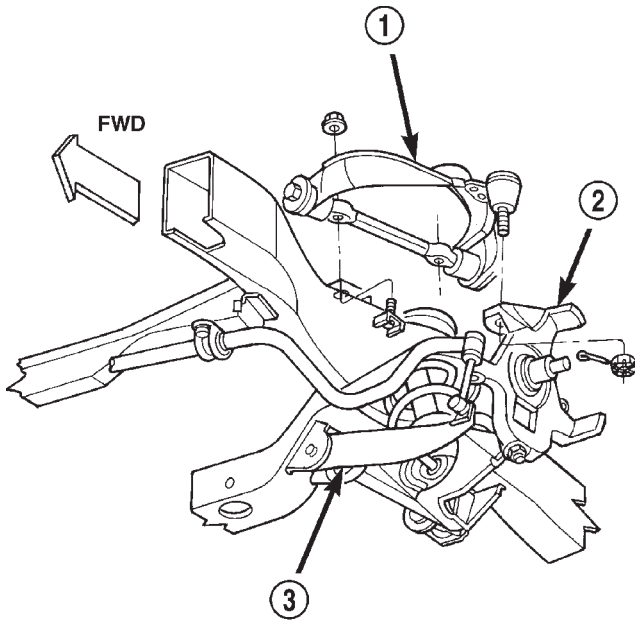

Fig. 8 Upper Suspension Arm
- (7) Remove suspension arm pivot bar mounting nuts and remove suspension arm (Fig. 8).
NOTE: Before installation, insure pivot bar adjustment bolts are in their original location (Fig. 8).